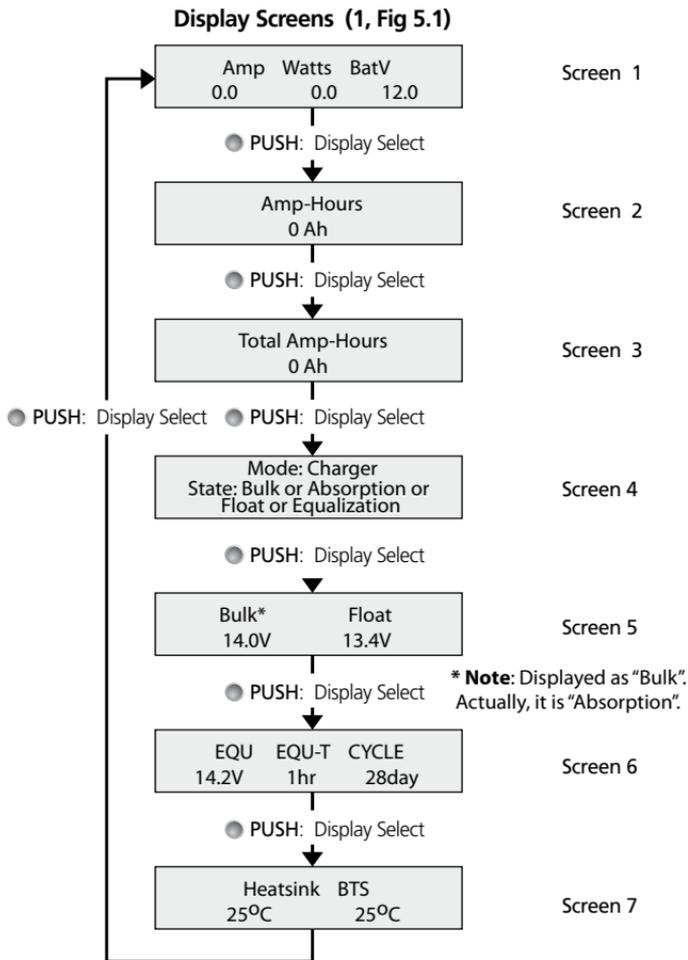

Fig. 5.3. LCD Display Flow
- LCD Screen 4 (Fig 5.3) displays “State: Equalization” all the time till the unit exits Equalization Stage to Float Stage.
- Screen 6 (Fig 5.3) displays the set Equalization Voltage (under EQU), the Equalization Time (under EQU-T) and 28 day period (under CYCLE) pertaining to one of the 6 options of battery types that has been selected with the help of DIP Switches 2, 3, 4 (Fig 5.2 and Table 6.1)
During this stage, the LCD Screen 4 (Fig 5.3) displays “State: Equalization”. Screen 1 (Fig 5.3) shows the actual terminal voltage of the battery under “BatV”. This voltage
will be less than the programmed Equalization Voltage Set Point displayed on Screen 6 (Fig 5.3) under "EQU".
**NOTE:** *Although the charger is in Bulk Stage, the LCD Screen 4 (Fig 5.3) displays "State: Equalization" and NOT "State: Bulk."*
During this stage, LCD Screen 4 (Fig 5.3) displays " State: Equalization". LCD Screen 6 (Fig 5.3) displays the programmed Equalization parameters. Screen 1 (Fig 5.3) shows the programmed value of Equalization Voltage Regulation Set Point "Ve" under "BatV".
**NOTE:** *During Equalization Stage, if the load current is more than the current from the solar panel, the battery voltage will drop. If the battery voltage drops around 1V below the Equalization Transition Voltage Set Point "Ve" for around 1 min, the controller reverts to Bulk Stage with 100% Duty Cycle. The LCD Screen 4 (Fig 5.3) will still display "State: Equalization" and the front panel Status LED will still be steady Orange. It will revert to PWM when the battery voltage reaches Equalization Transition Voltage Set Point "Ve" and is sustained for a minimum period of around 50 to 55 sec.*
During this stage, the LCD Screen 4 (Fig 5.3) displays “State: Float”. Screen 5 (Fig 5.3) displays the programmed Float Voltage Regulation Set Point (Displayed on the screen under “Float”).
**NOTE: During Float Stage, if the load current is more than the current from the solar panel, the battery voltage will drop. If the battery voltage drops around 1V below the Float Voltage Regulation Set Point “Vf” continuously for around 1 hour, the controller reverts to Bulk Stage and the LCD Screen 4 (Fig 5.3) changes to “State: Bulk”.**
Display (3, Fig 5.1)	Push to change the LCD display screens (Fig. 5.3) Push and hold to reset Amp-Hours.
Fig. 5.3. Please note that the 7 screens are sequential & are displayed in a continuous loop: 1 - 2 - 3 - 4 - 5 - 6 - 7 - 1 - 2 - 3 and so on (See Fig. 5.3, page 36). When selected, Screens 2 to 7 will be displayed for 15 minutes and thereafter, will revert to Screen 1 (Default Screen). Details of information provided in the LCD screens (Fig 5.3, page 36) are given below:
As soon as Battery (+) is connected, the Status LED (2, Fig .1) will be steady Orange and message "Welcome to Samlex Solar 1.0" will be displayed for around 3 to 5 sec. After this, the LED will blink Green & Screen 1 (Fig 5.3) will be displayed: Amp 0.0; Watt 0.0; BatV="the battery voltage".